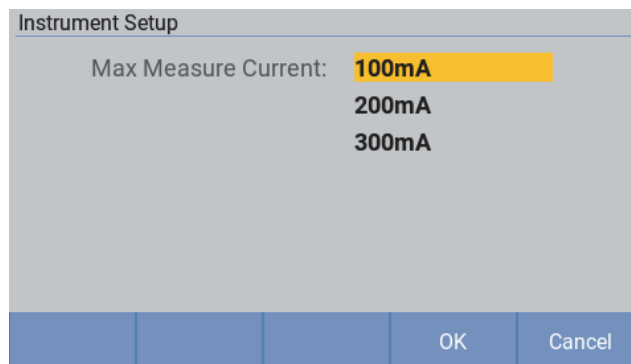

Figure 24. Setting the max measurement current
1. In the **Instrument Setup** screen, use the up and down arrow (▼ ▲) buttons on the front panel to move the cursor to the **Max Measure Current** option (the option is highlighted in yellow). Press **F4** (Edit) button on the front panel to enter the maximum current setting screen. As shown in Figure 24.